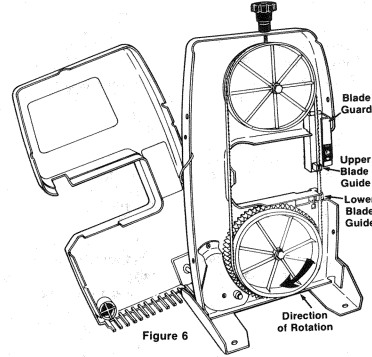

Figure 6
5. With the teeth facing you, slide the blade onto both pulleys and into the slots of the upper and lower blade guides. Position the blade on the pulleys such that the back edge of the blade is just touching the rear of the slots in the blade guides. The saw blade teeth should be pointing downward in front of the blade guides. See Figure 6.